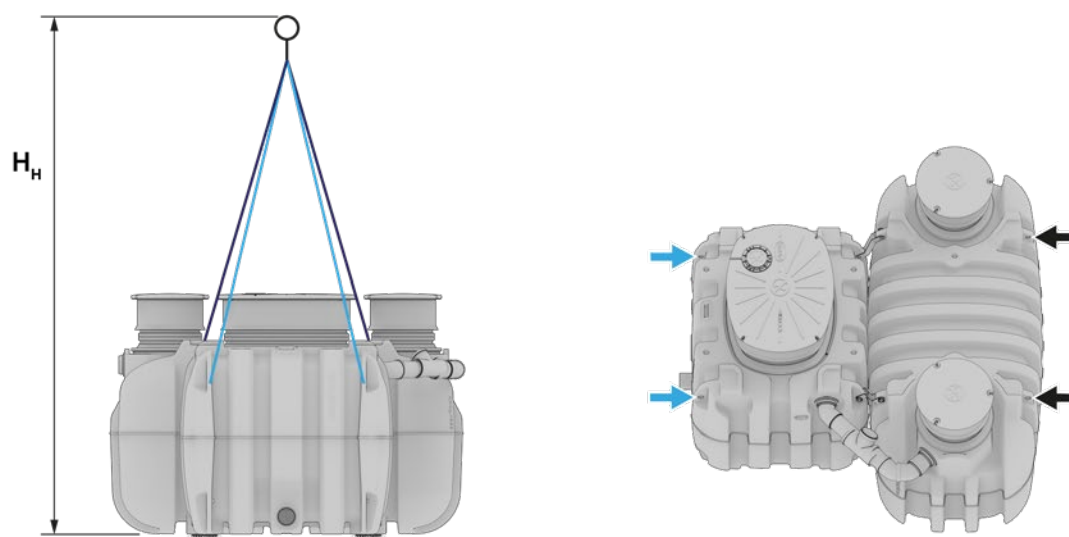

Fig. 10: Attachment points and slings for pack configuration
- ① Take note of the attachment points and number of slings (see *Fig. 10 – 12* and *Tab. 8*).